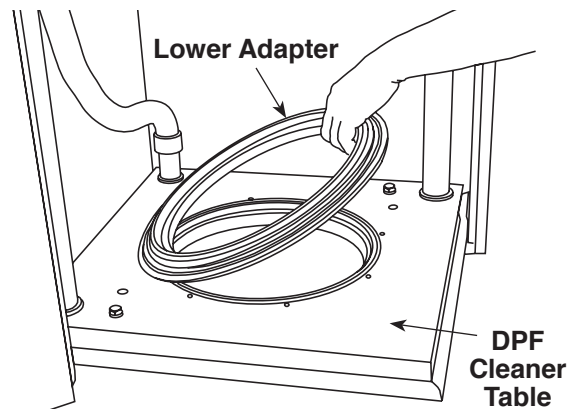

Figure 2
3. Verify the DPF Cleaner table is clean. Place the lower adapter on the table with the piloting edge of the adapter in the hole in the table. The adapter flange should rest on the o-ring in the table. See Figure 2.